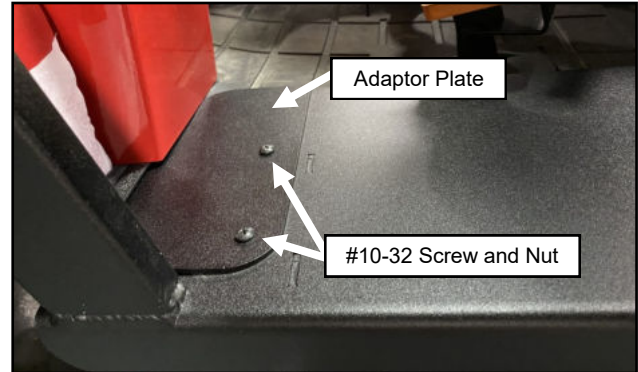

Fig. 18.1 (Install Adaptor Plate, Right)
18.1 Remove the rubber on the back edge of the right-side floorboard and install the adaptor plate with #10-32 x 5/8" screws and nuts. See Figure 18.1.
18.2 Install a floorboard step below the left side frame floorboard. See Figure 18.1. Tighten hardware.